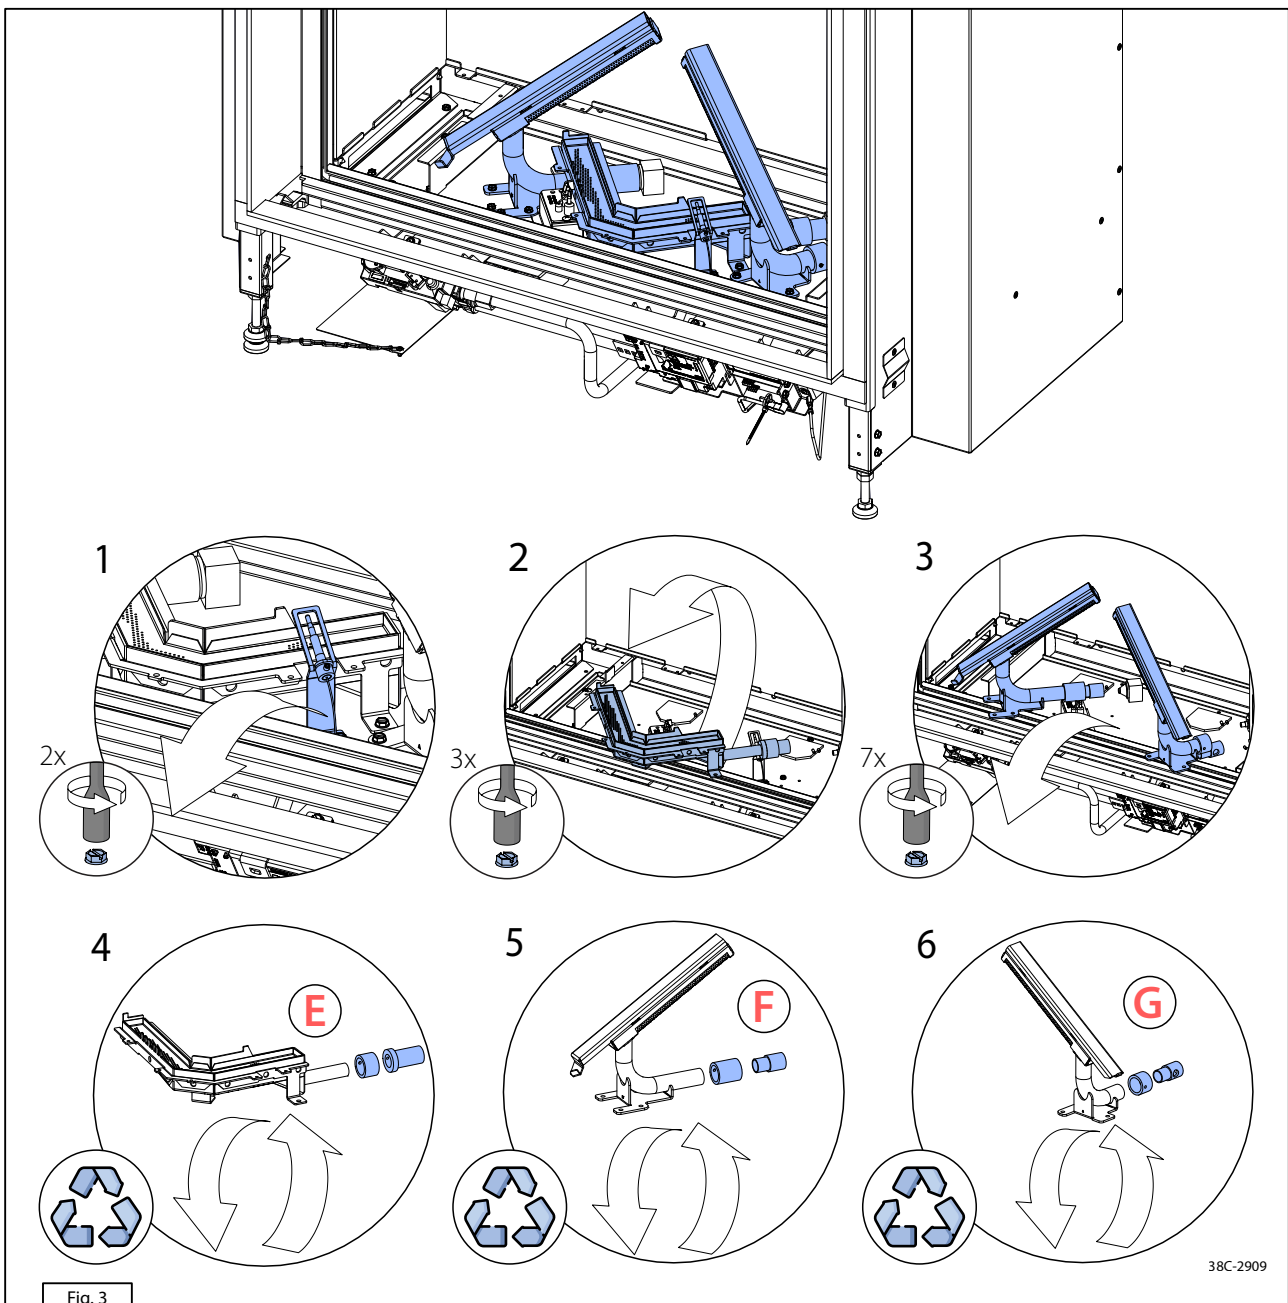

Fig. 3
For dismantling the burners, proceed as follows (see Fig. 3):
- Carry out steps 1 to 3, Section 1.3 (see Fig.3), in reverse order.